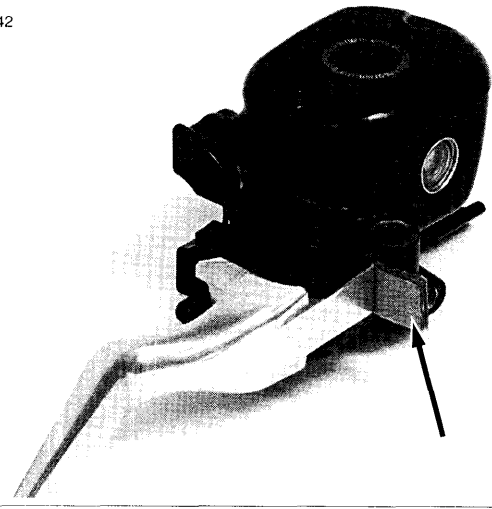

Figure 2-50. Install 5/32 in. (4 mm) Cardboard Insert Before Installing Master Cylinder Assembly
8. Install **new** retaining ring (17) in pivot pin groove. Verify that retaining ring is fully seated in groove.
9. Remove master cylinder assembly from vise. Install cover (2), diaphragm plate (3) and diaphragm (4) on master cylinder reservoir. Install two screws (1) to fasten cover to reservoir, but do not tighten at this time.
10. See Figure 2-50. Squeeze front brake lever and place a 5/32 in. (4 mm) thick cardboard insert between brake lever and lever bracket. Release brake lever.